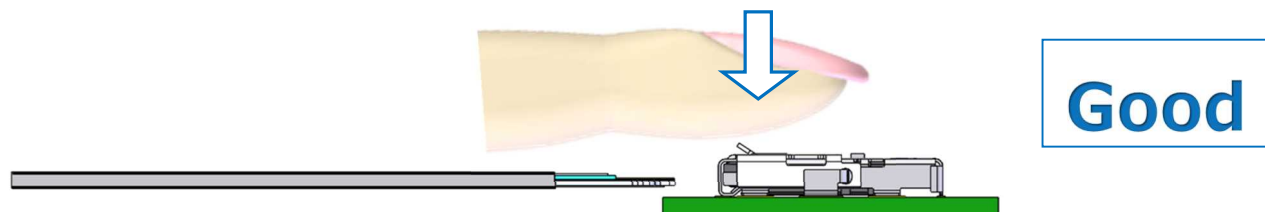

図. 3-5 FFC 抜去方法 3 / Fig.3-5 FFC removal method 3
④ 図 3-5 の様に、FFC 抜去後に COVER を閉じる。
Close cover after FFC is removed completely as shown in Figure 3-5 .